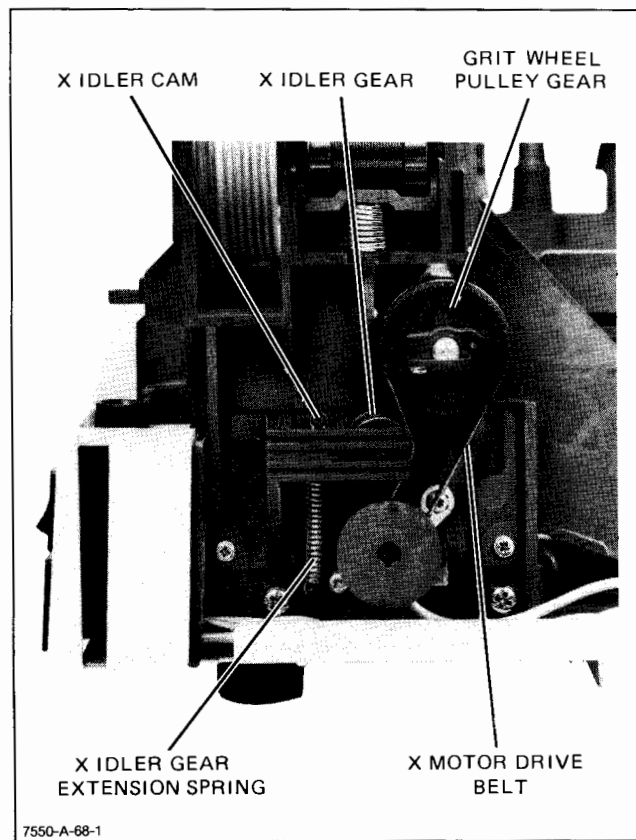

Figure 6-26. X-Motor Idler Gear Removal
- Release the X-idler gear extension spring from the standoff on the X,Y carriage assembly. See Figure 6-26.